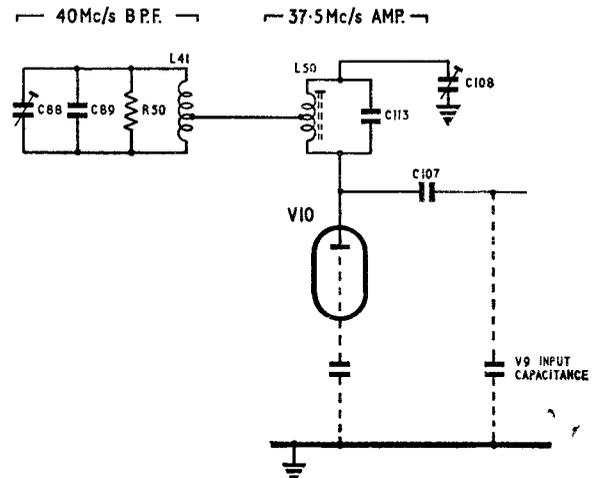

Fig. 4 Simplified balancing circuit
12. Further amplification of the 37.5 Mc/s signal is provided by V10. To prevent interaction between the 40 Mc/s band-pass filter and the 37.5 Mc/s tuned circuit (L50 and C113) in the anode of V10, a balancing circuit is included which is shown in a simplified form in fig. 4. The 40 Mc/s signal is introduced into the 37.5 Mc/s tuned circuit at a point of zero r.f. potential since L50 is centre tapped and C108 is adjusted to be equal to the total of the capacitances of V10 anode to chassis, C107 and the input capacitance of V9.